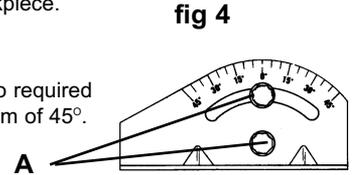

fig 4
- 4.6.1. To effect an angled cut loosen the vice back plate retaining bolts (fig 4 A) and turn the turntable to required angle by reading the graduated scale around the perimeter of the vice back plate up to a maximum of 45°.
- 5.1.3. Place the locking tool (B) in the spindle hole (A) to hold it steady. (Located other side of disk in fig 4).